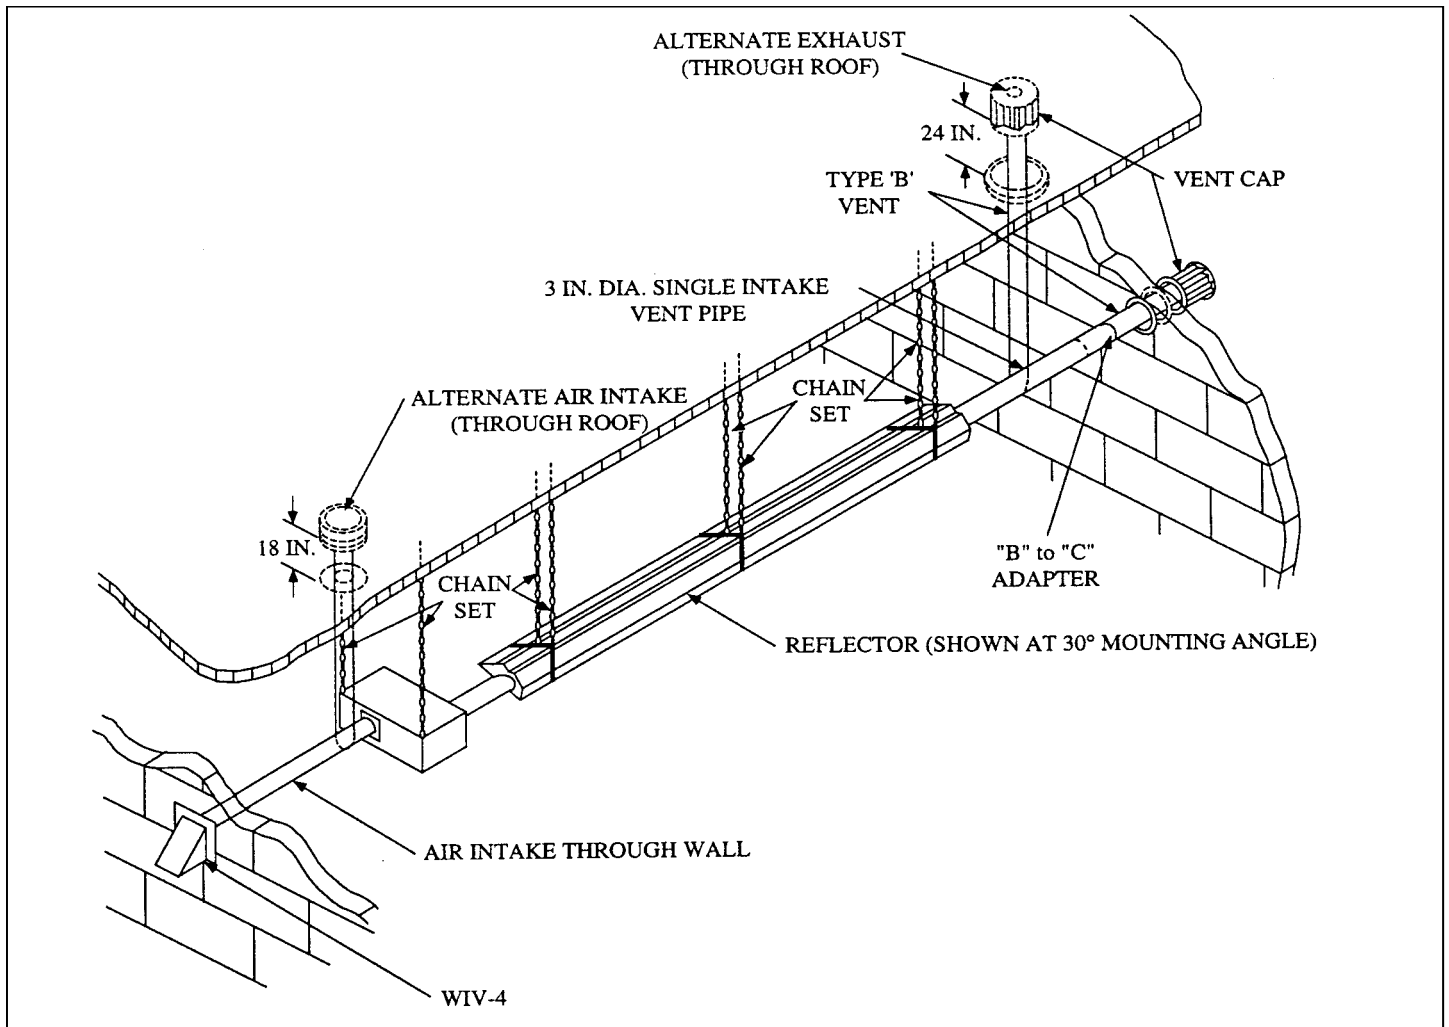

Figure 1-1: Typical Installation Drawing
3. Make sure the finished installation will conform to the design requirements listed in the Clearance to Combustibles Chart and the limits shown in Figures 1-1 and 1-2.